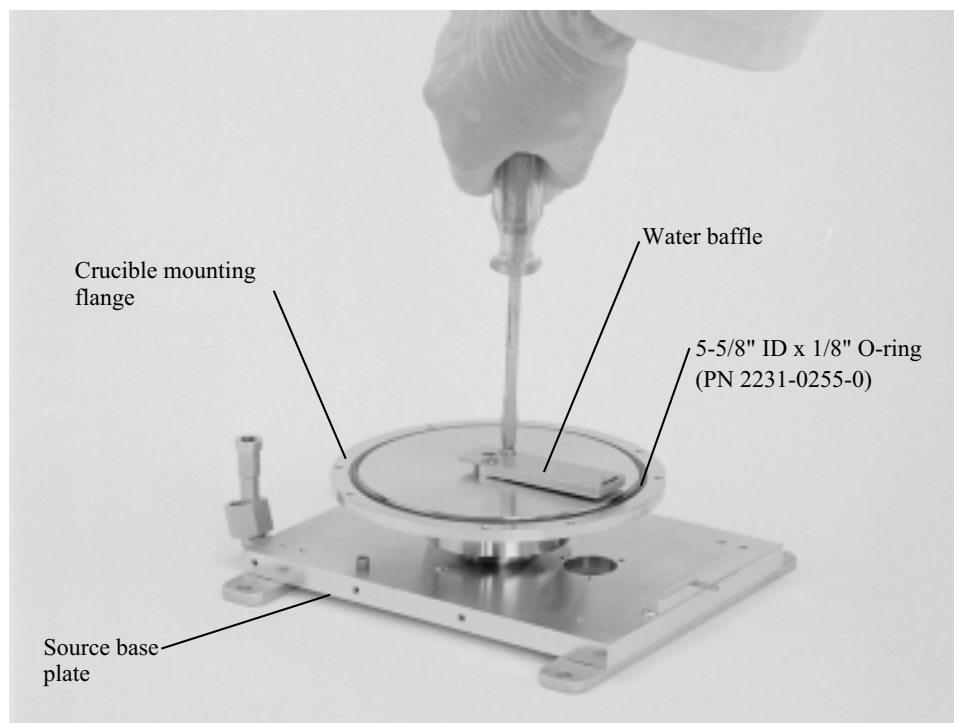

Figure 5-20. Detaching the water baffle
Step 20: Remove the two 8-32 1/4" pan-head screws that secure the water baffle to the pivot shaft and remove the water baffle (see Figure 5-20).